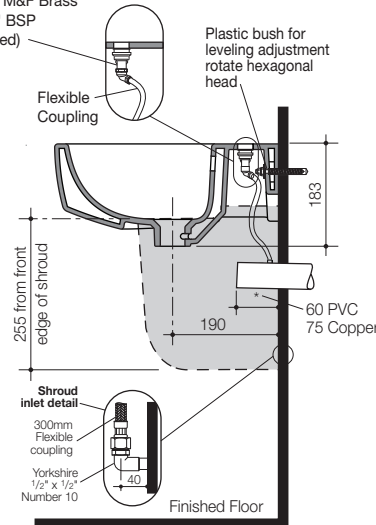

Fig. 3
- 4- Locate basin onto the Fixing Screws on the wall. Insert plastic bushes, metal washers and fasten to wall with fixing nut. To complete assembly as detailed in **Fig. 3**.
- 5- The Plastic Bush allows for leveling adjustment if required by rotating the hexagonal head bush, the basin will be slightly raised or lowered as shown in **Fig. 3**.